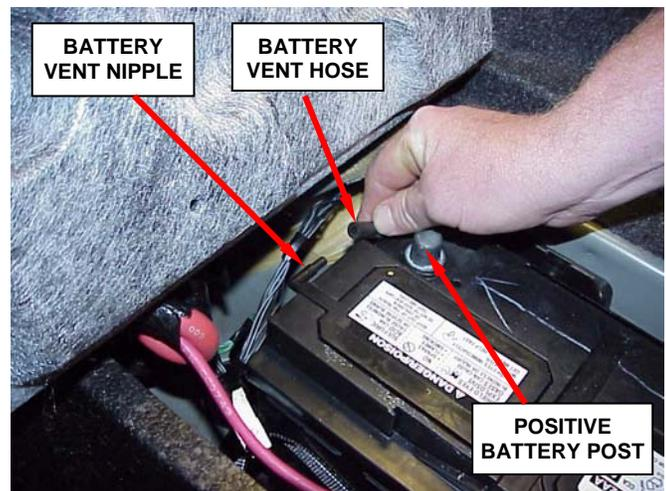

Figure 3 – Battery Vent Hose
- c. Gently disconnect the battery vent hose from the battery vent nipple (Figure 3).
- g. Gently connect the battery vent hose to the battery nipple (Figure 3).